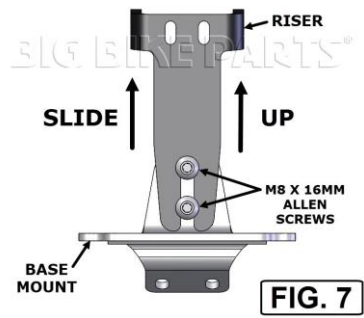

**FIG. 5**
6. INSERT THE FOUR T-NUTS INTO THE SLOTS IN THE BOTTOM OF THE SEAT AS SHOWN IN FIG. 5. IF NEEDED USE SOME SMALL PIECES OF TAPE TO HELP HOLD THE T-NUTS IN PLACE.